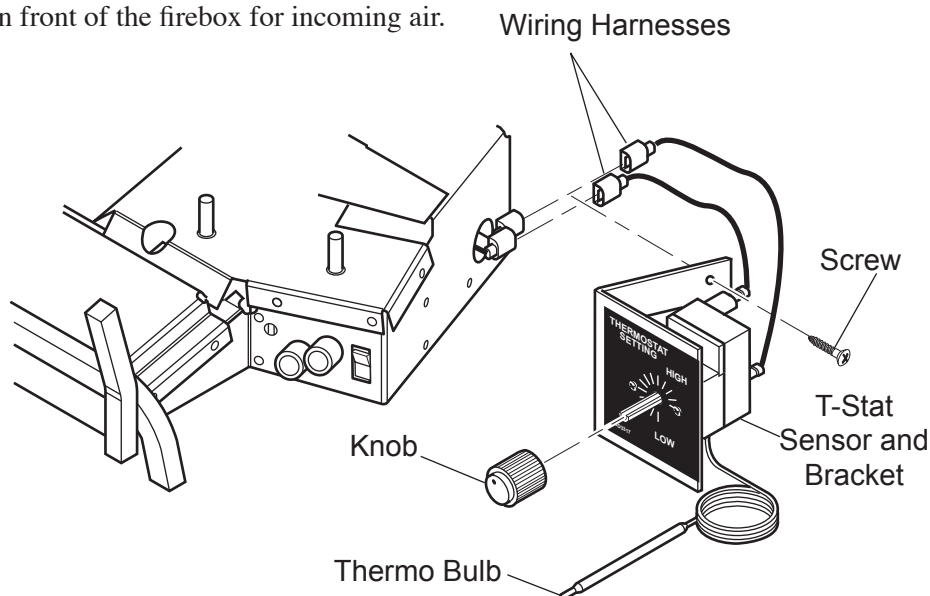

**Figure 20 - Applying Label to Bracket**
2. Peel away the paper backing on the label. Line up holes in label with holes on the bracket. Right side of label should flush with right side of bracket. See *Figure 20*. Press label firmly and smoothly to bracket.